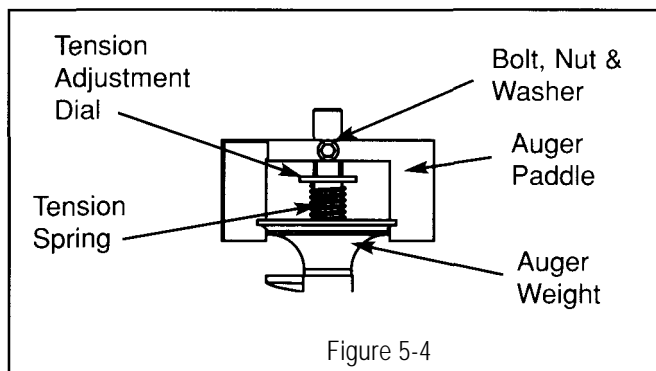

Figure 5-4
6. Remove bolt, nut and washers securing auger paddle to auger shaft (see figure 5-4).